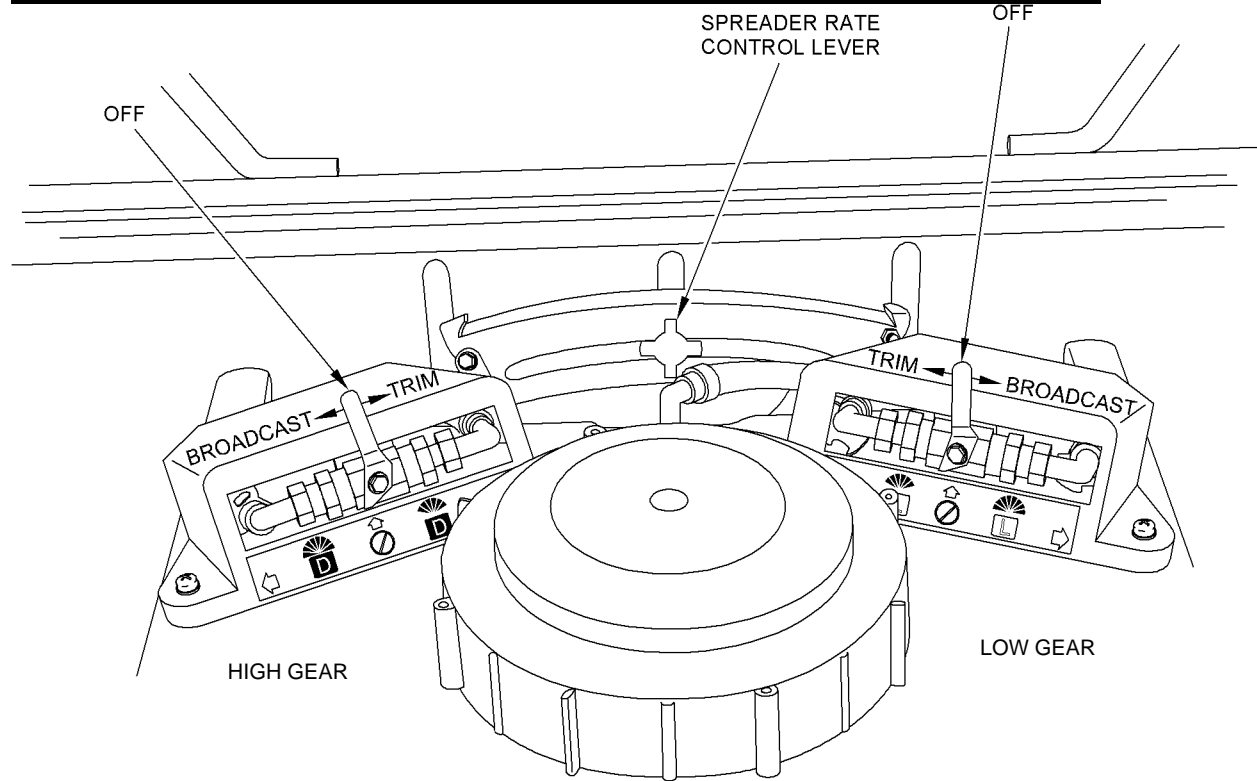

Figure 11. Setting the Spray Control Valve
2. Referring to Figure 11, select the HIGH gear broadcast nozzle by turning the left Spray Control Valve handle to the left. The right Spray Control Valve handle must be pointed up or down turning off the LOW gear nozzles.
2. Referring to Figure 11, select the HIGH gear Trim nozzle by turning the left Spray Control Valve handle to the right. The right Spray Control Valve handle must be pointed up or down turning off the LOW gear nozzles.